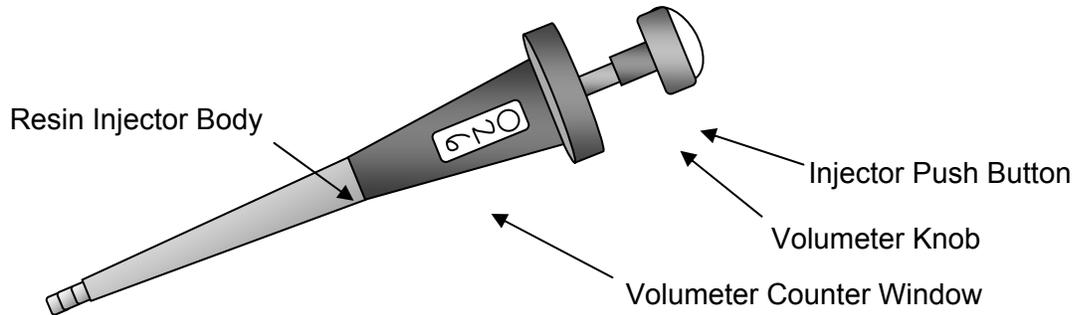

Figure 7-26 – Resin Injector and Volumeter Counter Knob
Step 4 - Make sure the volumeter counter on the resin injector is set to 0.26 (2.6 μ l). If it is not correctly positioned, then turn the knob until it indicates 0.26 (026) in the volumeter counter window. See Figure 7-26.